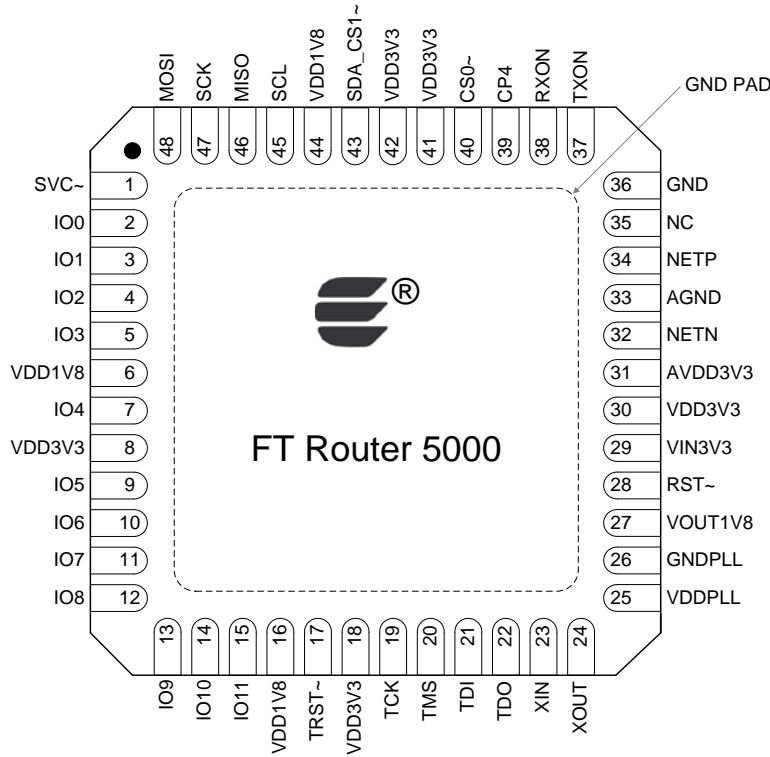

Figure 12. FT Router 5000 Chip Pinout
- *Figure 12* shows the pinout for the FT Router 5000 chip. The central rectangle in the figure represents the bottom pad (pin 49), which must be connected to ground.